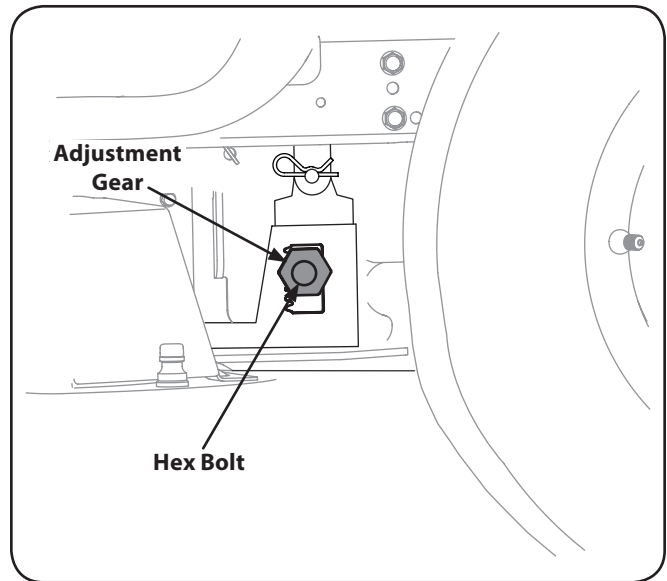

Figure 6-6
3. Loosen, but do NOT remove, the hex bolt on the front left deck hanger link. See Fig. 6-6.
4. Using a wrench, raise or lower the left side of the deck by turning the adjustment gears. See Fig. 6-6.
4. Loosen, but do NOT remove, the hex bolt on the left and right deck hanger brackets. See Fig. 6-6.
5. Using a wrench, raise or lower the left and right side of the deck by turning the adjustment gears. See Fig. 6-6.